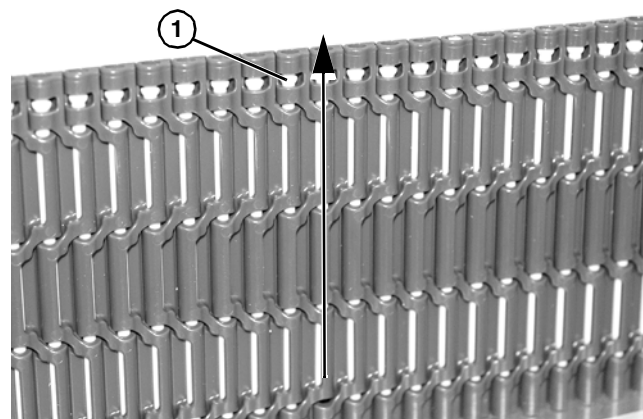

Figure 31
1. Choose one link on either end of the conveyor to remove belt pin. Locate end of rod without retaining feature (**Figure 31, item 1**).